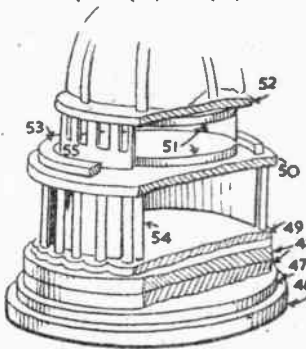

Fig. 4—Cut-away detail of dome
The dome itself is shown in Fig. 4. In this connection, various circles of wood required are detailed in the top righthand corner of the sheet. Other shaped circles are given in full pattern. Two pieces of No. 48 are glued together to form extra thickness. Glue these discs above each other until you get to (49). Cut all the little circles in this part with a  $\frac{1}{8}$  in. bit, to ensure that the columns will glue in firmly. These columns are  $\frac{1}{8}$  in. round rod  $1\frac{1}{2}$  in. long. Glue them firmly upright and evenly. Allow the glue to harden before adding the thin drum piece (54). This is a strip of thin plywood bent round and placed like a collar inside the columns. Part (50) is then glued on, and the others as shown in Fig. 4.